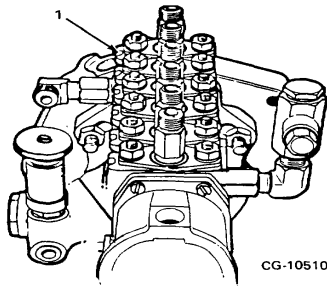

Figure 1. Adjustment Slot Location
4. Lubricate O-ring and lower surface of barrel, and install barrel with adjustment slot on the barrel flange opposite the control rack (Figure 1).